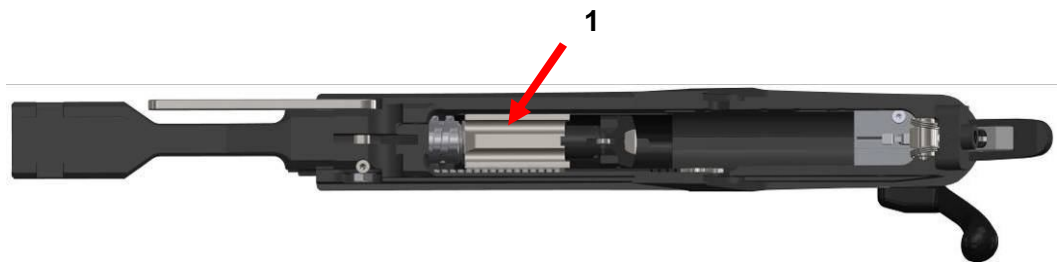
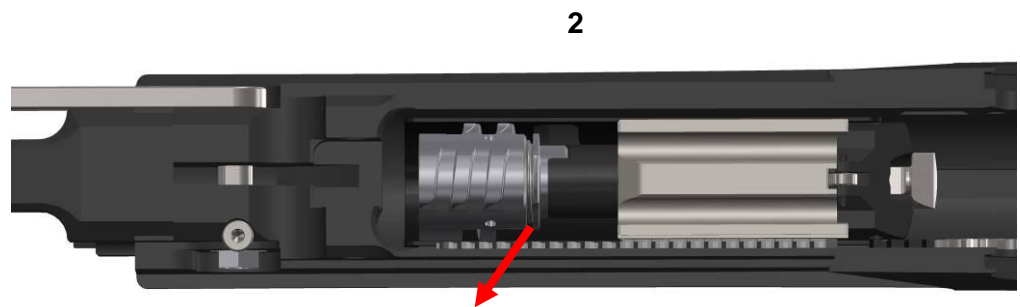

Figure 20
Figure 21
(7) Put bolt handle into rearmost position and manually push the bolt carrier (1) to the rear (Figure 20) until bolt head (2) lies open (Figure 21).